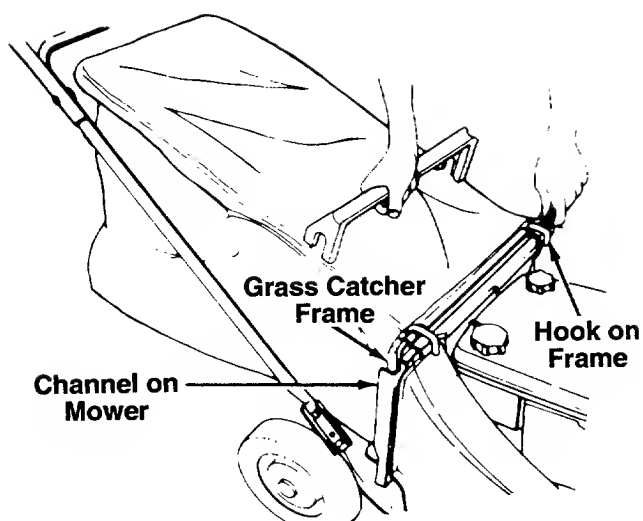

FIGURE 2.
1. Hold the chute door on the catcher panel open as shown in figure 2.
2. Slide the frame of the grass catcher down into the channels on each side of the mower. The hooks on the frame go over the panel on the discharge chute. See figure 2.